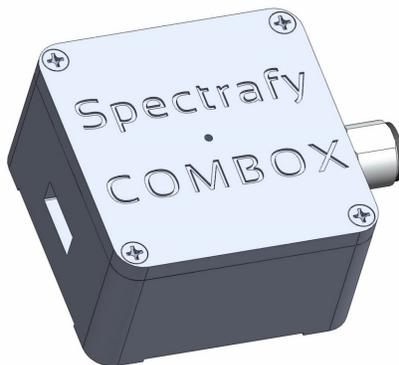

Figure 6: The COMBOX is used to interface the SolarSIM-ALB to a PC.
Option 1 uses the SolarSIM Communication Box (COMBOX) - a seamless link between a PC/laptop and the SolarSIM-ALB, as shown in Figure 6. A standard, 3 ft USB cable is connected from the COMBOX to a PC and a 10 m RS-485/power cable, with splitter, is connected from the COMBOX to the SolarSIM-ALB. This option is ideal for test sites and locations where one has access to a personal computer (PC) or when quick, in-field spectral albedo measurements are necessary with a laptop. Note that, if needed, Spectrafy can provide power cables much longer than our standard 10m cable to enable the use of a COMBOX.